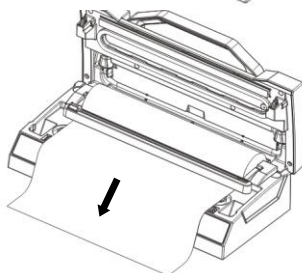

Fig.3
3. Pull out the bag to the suitable length you want– **Fig.3**